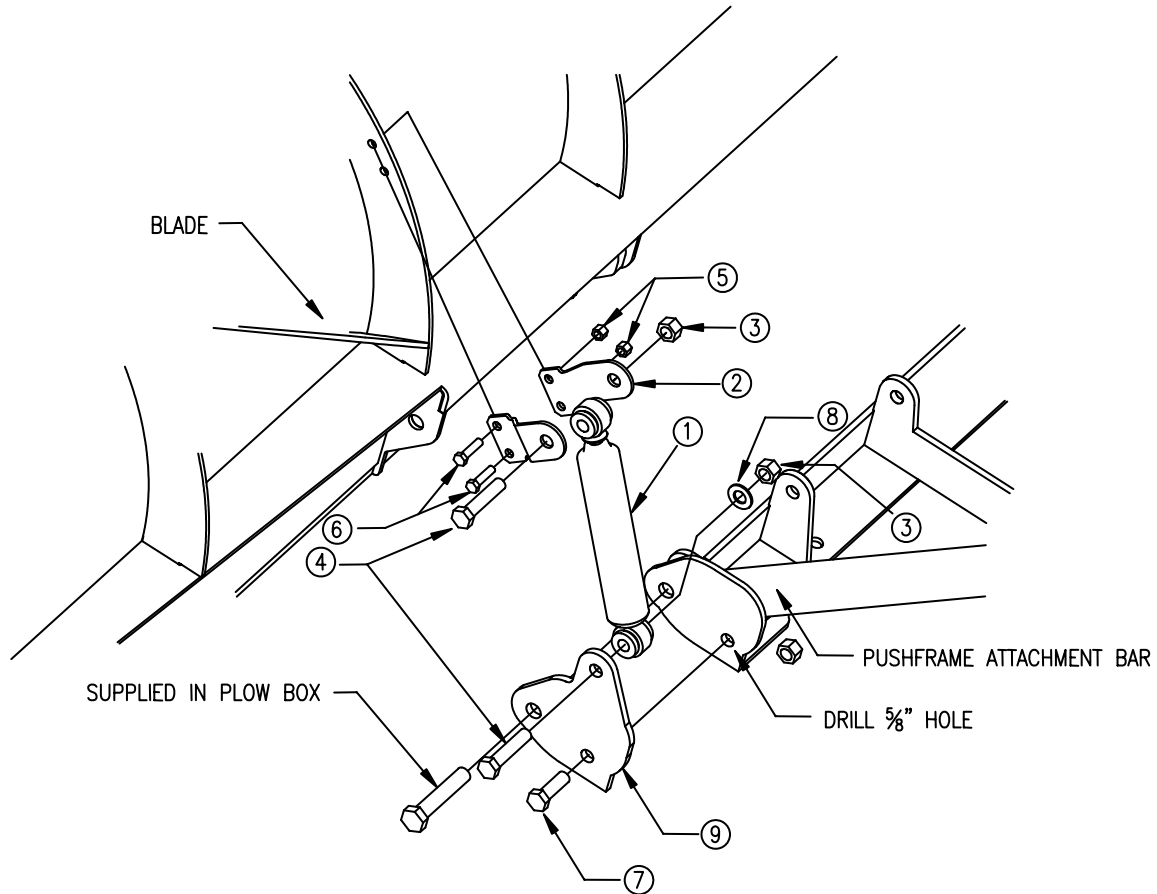

Figure 2. Shock Absorber to Pushframe Attachment Bar
- 1) Position Bottom Shock Mount (9) on Pushframe Attachment Bar as shown.
- 3) Insert 5/8"-11 X 2" Hex Head Cap Screw (7) through the hole in Bottom Shock Mount (9) and the drilled hole in the Pushframe Attachment Bar. Install 5/8" Oval Top Lock Nut (3) on Hex Head Cap Screw (7) Figure 2. Leave hardware finger tight.
- 6) Fasten the base end of Shock Absorber (1) to the top hole of the Bottom Shock Mount (9) using 5/8"-11 X 3" Hex Head Cap Screw (4), 5/8" Flat Washer (8), and 5/8" Oval Top Lock Nut (3). Leave hardware finger tight. See Figure 2.